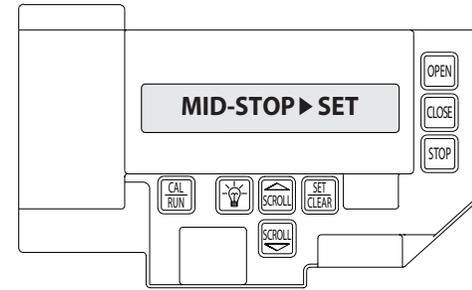

Figure 10
- 3) Press SCROLL  until display reads "MID-STOP > CLR" **Figure 10.**